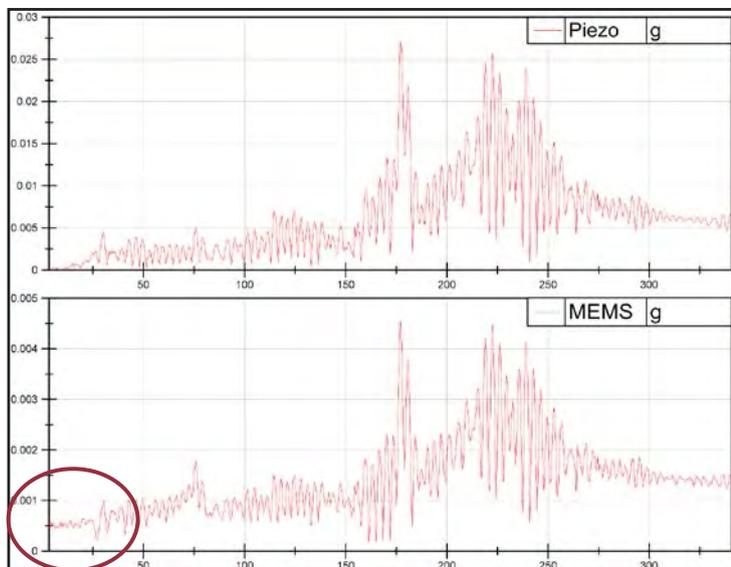

Figure 3: A comparison of the response of both accelerometers when tapped
Unlike the PZT device, the MEMS device has a direct current (DC) response, which is of interest for very low frequency machines, such as wind turbines (also enables a faster recovery from saturation). Since the frequency response of the vibration stimulus system rolled off at very low frequencies, the response for both devices were tested by “tapping” the test jig and capturing the resulting responses. The recorded time domain measurement was then transformed to the frequency domain. The results are shown in Figure 3. Note that the MEMS accelerometer was able to record a response down to DC.